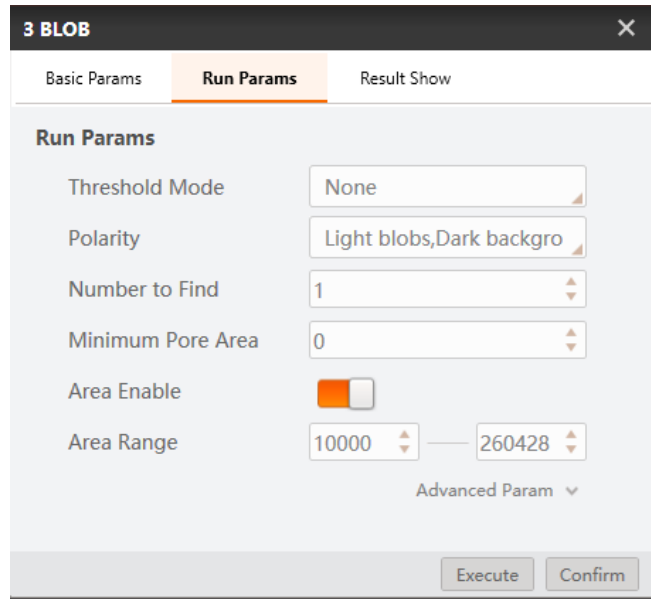

Figure 11.21 Run params
2. Set **Run Params**, as shown in Figure 11.21.